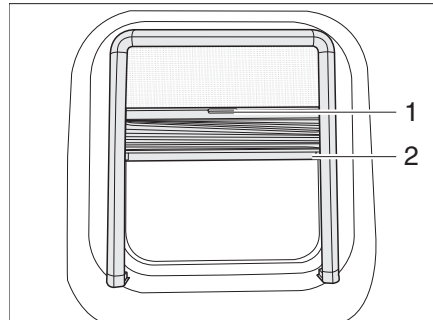

Fig. 16 Hinged window
- Grip into the notch (Fig. 16,2) and pull the blind from the top downwards as far as wished.
- Grip into the notch (Fig. 16,2) and push the blind upwards.
- Use the handle (Fig. 16,1) to pull the roller insect screen downwards.
- Use the handle (Fig. 16,1) to push the roller insect screen upwards.